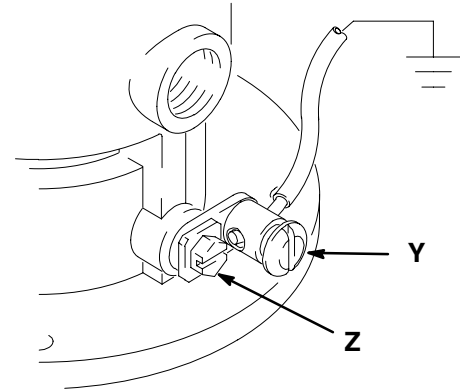

Fig. 1
- **Pump:** Use a ground wire and clamp as shown in Fig. 1.
To ground the pump, remove the ground screw (Z) and insert through the eye of the ring terminal at end of the ground wire (Y). Fasten the ground screw back onto the pump and tighten securely. Connect the other end of the ground wire to a true earth ground. See Fig. 1. *To order a ground wire and clamp, order Part No. 222011.*